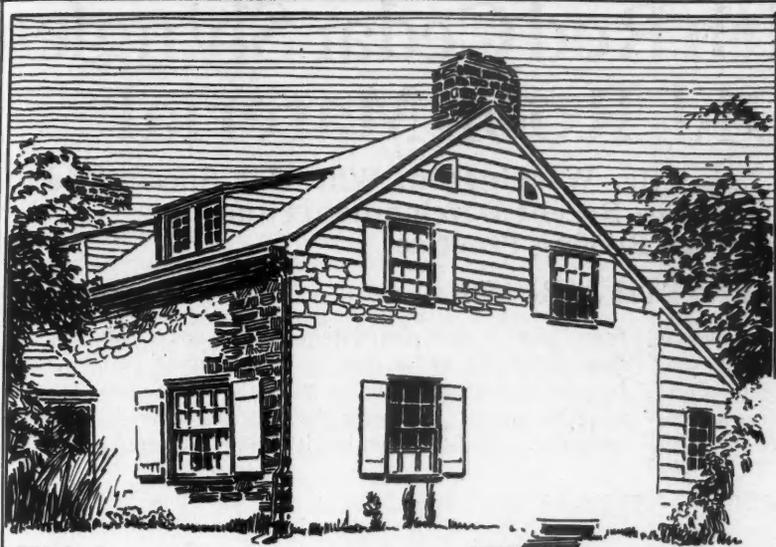

FIG. 1. THE SQUARE STONE HOUSE WITH A LOW ROOF.
There are in general two distinct types, one the town home and the other suburban. In figures 1, 3, 4 and 6 are homes which can be left in the open without harm. The places in figures 1 and 4 would be taken possibly as country homes, parts of little estates. Figure 3 might be a quiet sort of spot for a retiring family. Figure 6 might furnish a home for some less retiring, and in figures 2 and 5 we suspect the owners like to live in town.
In figure 1 there is the square stone house wall and inner stone chimney. The wall comes breast high in the
Figure 1 shows a hip roof having a span of 16 feet. This roof has a 9-inch rise per foot run of the common rafter. This gives a 9-inch rise for 17 inches of run of hip. We therefore use 9 inches on the tongue and 17 inches on the blade to obtain the bottom and top cuts of the hip rafter. The application of the square on the side of the hip is illustrated in Figure 2.
5. A roof is 19 feet wide. The rise per foot run is 10 inches. What is the length of the hip and what numbers taken on the square will give the top and bottom cut and what numbers will give the side cut. Note: The length per foot run for the hip rafter of this pitch is given in Figure 1.